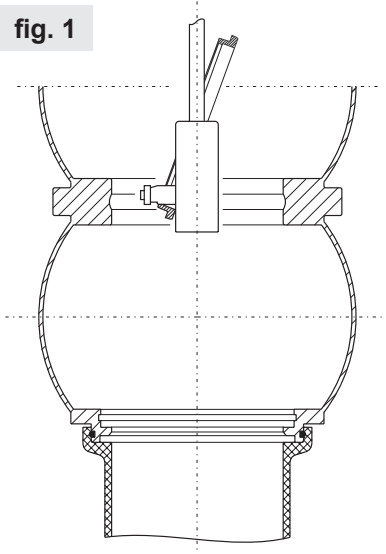

fig. 2
- 3) Round off the PTFE by means of the assembly mandril (fig. 2 / I) and press it into the groove. Do not strike or beat (fig. 2 / II).